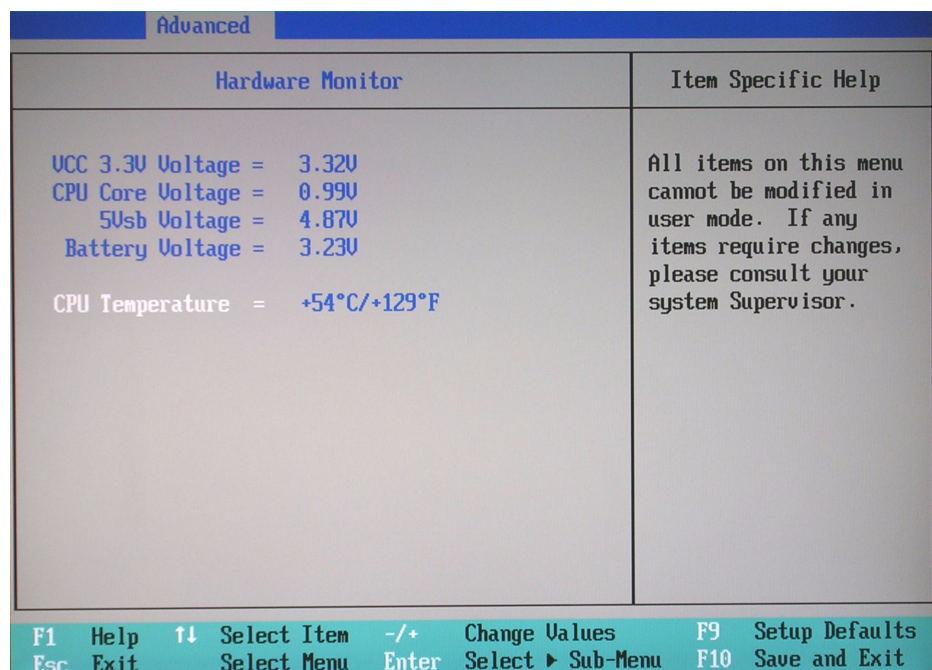

Figure 8-117 BIOS Advanced Hardware Monitor Parameters
Hardware Monitor	Figure 8-117 on page 8-117
18.) Set the parameters in the **Hardware Monitor** screen as shown above in Figure 8-117.